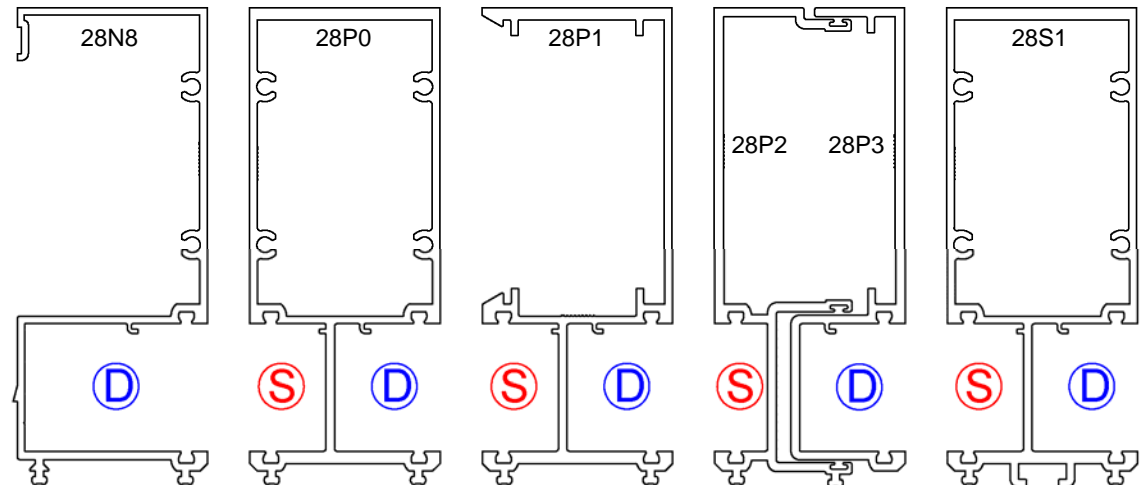

Figure 28
- The details in figure 28 show a circled “D” in the deep pockets and a circled “S” for shallow pockets.